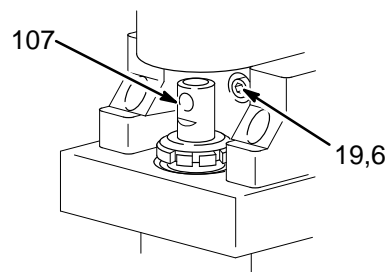
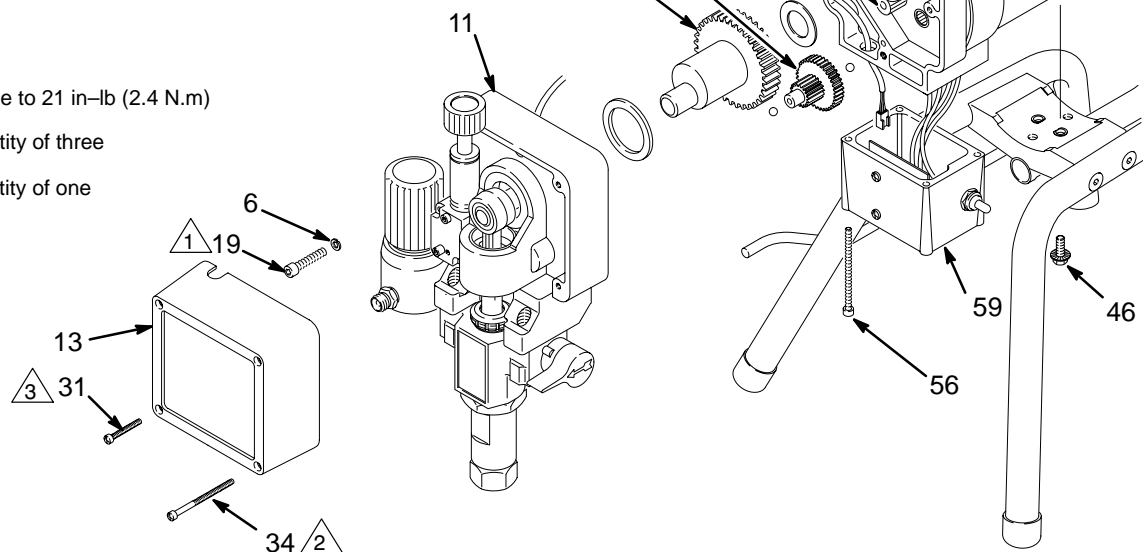
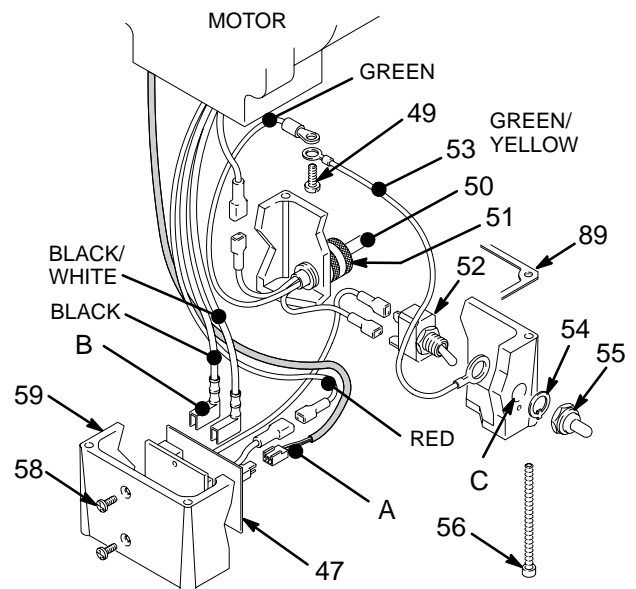

Fig. 20
Fig. 21
Fig. 22
NOTE: See Fig. 21 except where noted.
3. Remove the screws (56) and lower the junction box (59). Disconnect the motor wires and the pressure control wire (A) from the motor start board. Refer to Fig. 22 on page 23.
4. Remove the front cover (13).
5. Turn the displacement pump rod (107) so the pin hole aligns with the bottom drive housing screw (19). See Fig. 20. Remove the three drive housing screws and lockwashers (19,6). Also see Fig. 21.
6. Remove the two motor screws (5) and the lock washers (6).
7. Tap the lower rear of the drive housing (11) with a plastic mallet to loosen the motor. Pull the drive housing straight off the motor while guiding the harness (A) from the motor. Do not allow the gear (16) to fall. Read the CAUTION on page 24.
8. Remove the two screws (46) and lift the motor off the base (66).
9. Align the new motor with the base and reinstall the screws (46).
11. Connect the wires in the junction box. Refer to Fig. 22 on page 23. Install the junction box.
12. Connect the piston rod (107) to the drive housing; see page 21, **Installing the Pump**, Step 2 and the WARNING following it.
NOTE: See Fig. 22 for this procedure.